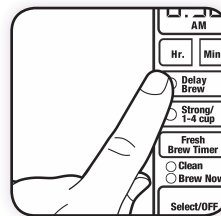

Figure 8
Note: To cancel Delay Brew once it is set, press the Delay Brew button once and the Delay Brew indicator light will turn off. (Figure 8)
- 5 To check the preset time while Delay Brew is active, press the Delay Brew button twice. The Delay Brew indicator will flash and the clock will display the preset time the coffeemaker is set to brew coffee. (Figure 8)